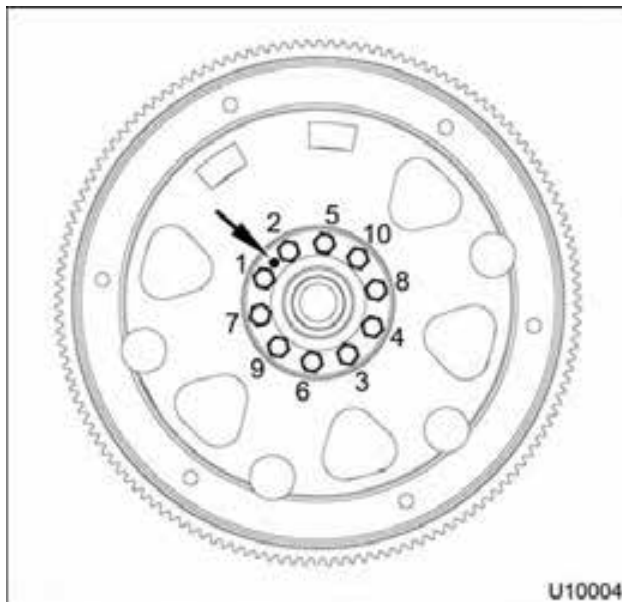

Figure 574 Torque sequence for flex plate flywheel assembly bolts and dowel location
4. Snug all bolts in sequence shown (Figure 574) to initial torque of 4 N·m (35 lbf·in).
5. Tighten all bolts in sequence shown (Figure 574) to final torque of 94 N·m (69 lbf·ft).